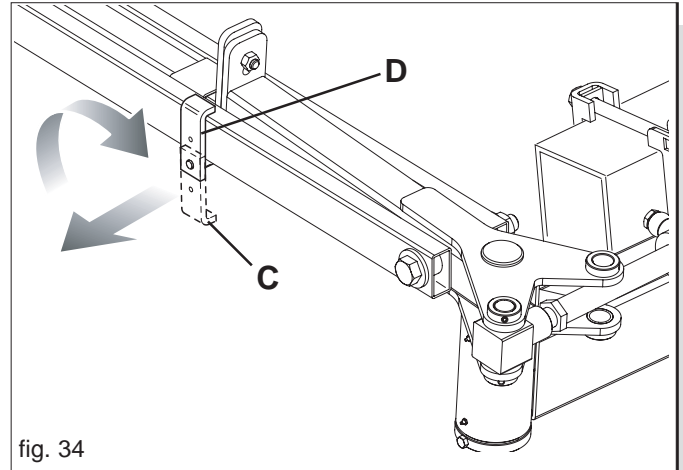

fig. 34
During operation, keep the stop block in position (C, Fig. 34), in order to enable the row marker arm to follow the movement of the ground. Before reclosing the equipment ready for transportation, lock the row marker arm by rotating the stop block to position (D).